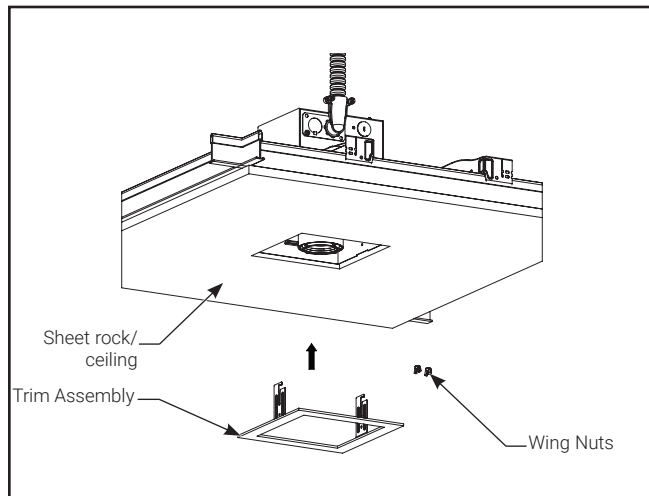

Figure 11.
7. Install Trim to housing with wing nuts. Place the trim on sheet rock, adjust height using wing nuts. Once the desirable height is achieved, tighten wing nuts securely. (Figure 11)